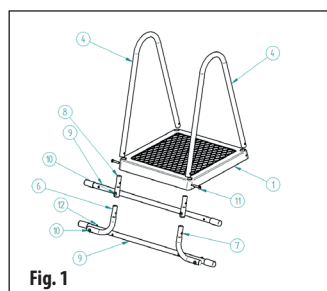

Fig. 1
Slide the ladder's handrails (4) into the holes in the platform (1) from above. (**fig. 1**) Then, slide the parts which will serve as the support for the ladder on the outside of the pool onto the handrails from below. For a pool with a depth of 120 cm in relation to the ground, use the nipple (8) and for a pool with a depth of 110 cm in relation to the ground, use the curved feet (6 and 7). When assembling, the curved feet must face away from one another and the screw holes for the braces (9) must be parallel to the plane of the platform (1). Make sure that the holes in the handrails (4) are aligned with the holes in the platform (1) and in the nipples (8) (curved feet (6 and 7)). Screw them together using 2 screws (11) and closed nuts (12). Insert the screws from the outside of the platform.
Take the brace of the ladder (9) and screw it to the nipples (8) or curved feet (6 and 7) mounted in step 1. Mount the brace from the side of the platform (1) using the two screws (10) and closed nuts (12). Mount the nut from the side of the platform (1). (**fig. 1**).